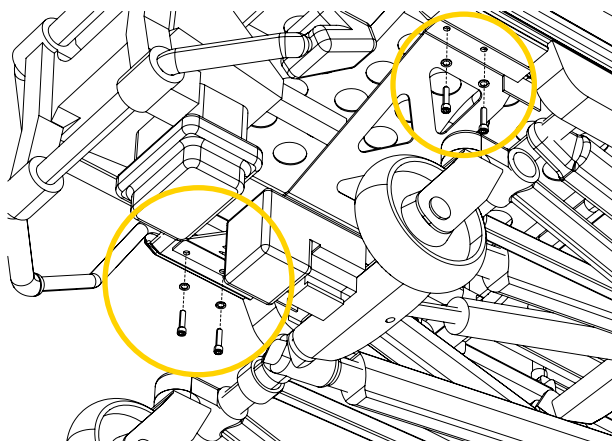

Figure 23: Removing the Power-LOAD system screws
5. Identify the Power-LOAD foot end fastener assembly (herein after referred to as Power-LOAD system) located under the stretcher, at the patient foot end (Figure 23).
6. Remove the four (4) screws, four (4) washers and two (2) spacers to loosen the Power-LOAD system (Figure 23). Set aside the Power-LOAD system and its hardware temporarily. The stretcher spacers will not be reused for this specific installation.